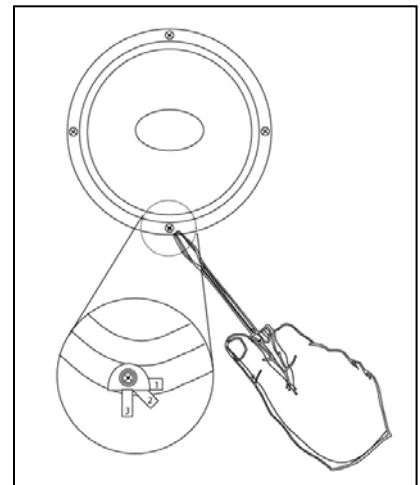

Figure 5
- Use one hand to push the speaker into the cut out (again, pay careful attention **not** to push on the woofer's cone, this can cause permanent contortion of the voice coil, thus producing mechanical rubbing sound or speaker failure) and the other to turn the screws that engage the installation tabs (see **Figure 5**). Tighten the tabs in a cross or X-pattern until "snug". Be careful not to over tighten the tabs or damage could result. The speaker should appear flush to the surface.